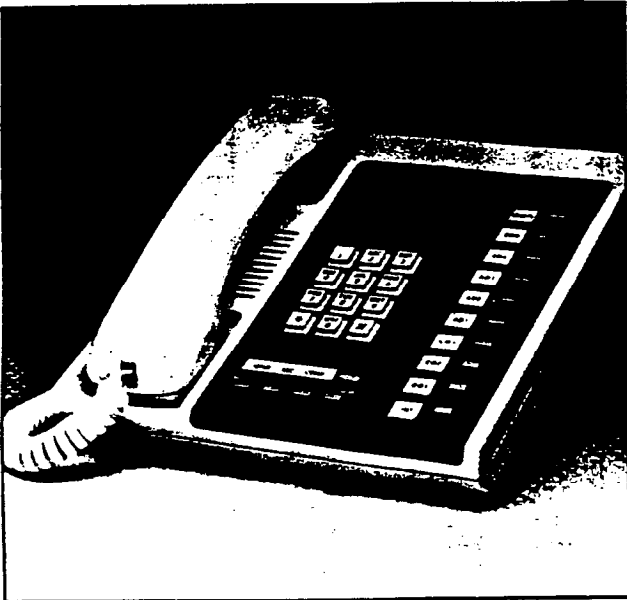

FIGURE 14—BLF EKT
06.24 The optional 10-key BLF EKT (Figure 14) provides the same features as those listed in Paragraph 06.23, plus an LED indication on which stations are in use.